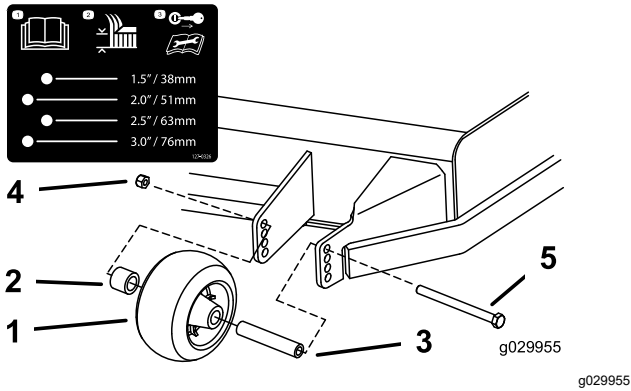
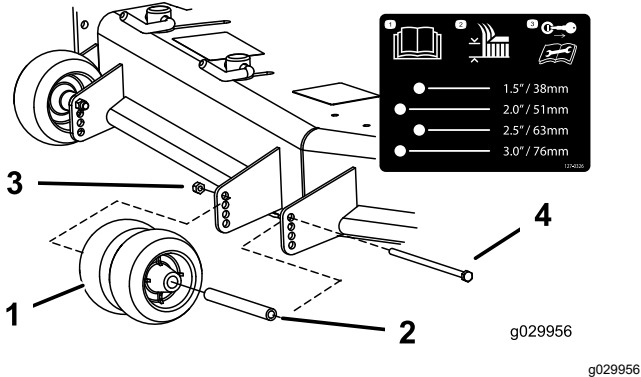
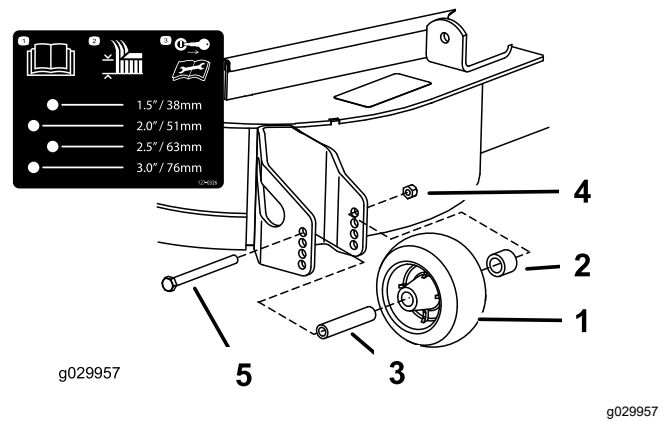

Figure 31
Figure 32
Figure 33
3. Adjust the anti-scalp rollers as shown in Figure 31, Figure 32, and Figure 33.